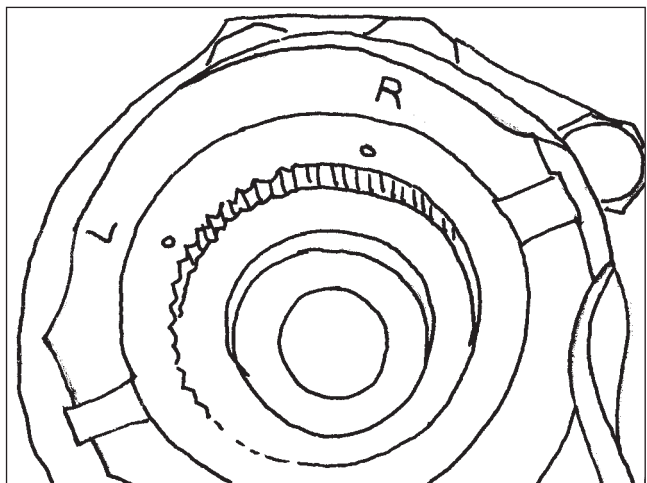

Figure 52
1. Install the pitman arm on the output shaft, aligning the timing mark of the pitman arm with the timing mark of the output shaft. Some pitman arms will have more than one timing mark. Consult your Vehicle Manufacturer's Service Manual for the proper timing mark for your vehicle (Figure 52).